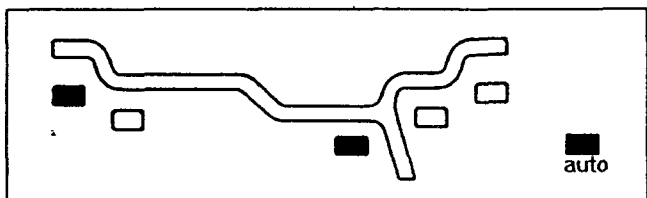

Fig.39
I. **AUTO ALU5.** The wheel weights position is as indicated in Fig.39. In this case use one tape weight on the inside and a clip-on weight on the inner edge.